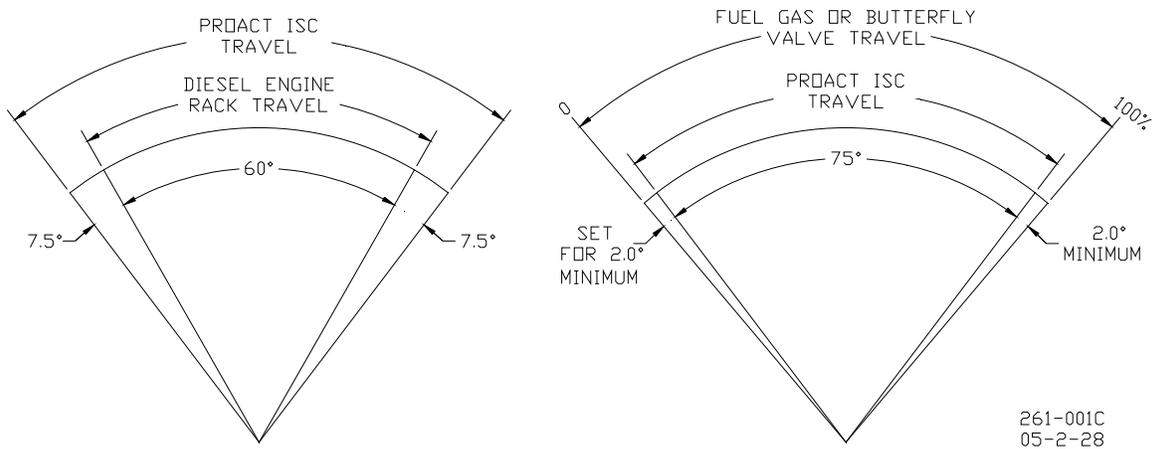

Figure 2-1. Fuel Stops
**Diesel Stops**—Diesel installations generally use the fuel system minimum and maximum position stops. Diesel engine racks are normally designed to provide the minimum and maximum stops without binding. The actuator's stops must not prevent the actuator from driving the fuel linkage to the minimum and maximum positions. The linkage should be designed to use as much actuator travel as possible, without preventing minimum and maximum fuel positions (see Figure 2-1).
**Gas Engine Stops**—Fuel gas valves and butterfly valves in carburetors often bind if rotated too far toward minimum or maximum. For this reason, the stops in the ProAct actuator should be used at both minimum and maximum positions. Note that the actuator internal stops allow up to 1.5 degrees of additional rotation in both directions during impact (see Figure 2-1). The engine must always shut down when the actuator is at the minimum stop.
**GAS ENGINE STOPS**—Fuel gas valves and butterfly valves in carburetors often bind if rotated too far toward minimum or maximum. For this reason, the stops in the ProAct actuator should be used at both minimum and maximum positions. Note that the actuator internal stops allow up to 1.5 degrees of additional rotation in both directions during impact (see Figure 2-1). The engine must always shut down when the actuator is at the minimum stop.